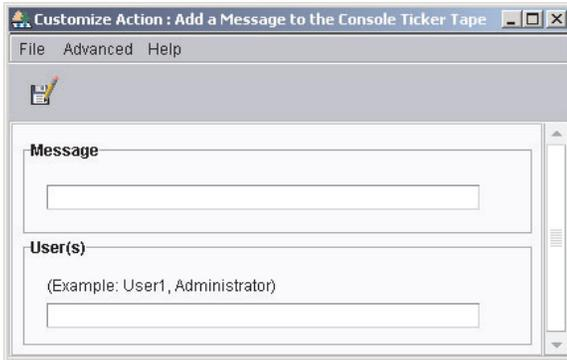

Figure 3. “Customize Action” window for ticker-tape alert
9. In the Actions pane of the Event Action Plan Builder, double-click an event action type. The “Customize Action” window opens. The example shown in Figure 3 on page 24 is for ticker-tape alerts.